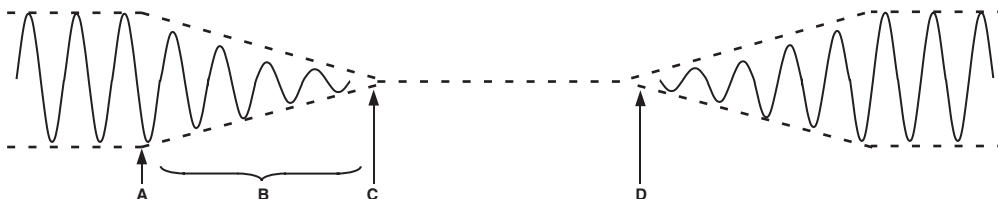

Figure 18. Recommended Sequences for Complete Parameter or Program RAM Upload Using Shutdown Mechanism
When writing large amounts of data to the program or parameter RAM, the processor core should be halted to prevent unpleasant noises from appearing at the audio output. Figure 18 shows a graphical representation of this mechanism's volume envelope. Points A–D are referenced in the following description. Bit 10 in Serial Control Register 0 (processor shutdown bit) will shut down the processor core. When the processor shutdown bit is asserted (A), an automatic volume ramp-down sequence (B) lasting from 10 ms–20 ms will occur, followed by a shutdown of the core. This method of shutting down the core prevents pops or clicks from occurring. After the shutdown is complete, Bit 1 in Control Register 1 will be set. The user can either poll for this bit to be set or just wait for a period longer than 20 ms.